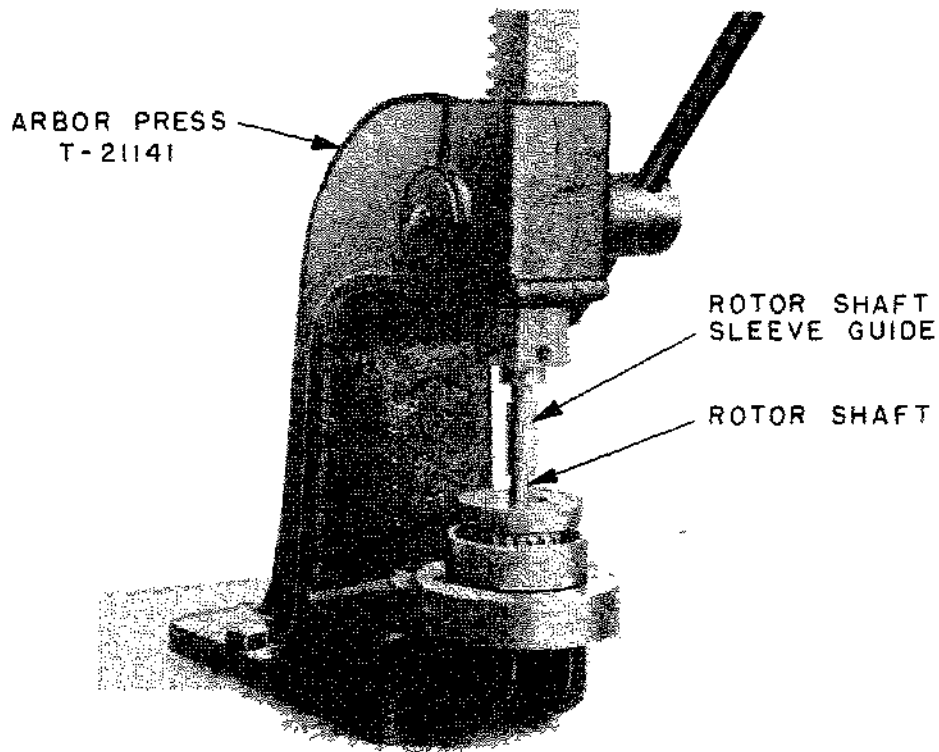

FIGURE 28 PRESSING THE SHAFT INTO THE ROTOR
6. Insert shaft in special, rotor-shaft sleeve guide on the lower end of the arbor press ram with the chamfered shoulder of the shaft down. By means of the arbor press lever, lower the shaft gently until it starts to enter the rotor. (See Fig. 28). Press shaft in one quarter of its length. Slack off slightly on the lever and turn the rotor one quarter turn. Continue pressing the shaft in, one quarter of its length each time, turning the rotor one quarter turn between each operation until the shaft is home.